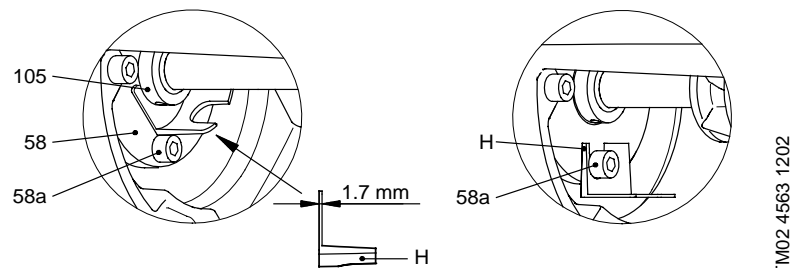

Fig. 1
Gaffel pos. H trækkes fri af akslen, vendes og placeres (opbevares) på skruehovedet pos. 58a, se Fig. 1.
Keep the shaft seal in position on the shaft by inserting the forked distance piece pos. H between the shaft seal pos. 105 and the holder pos. 58, see Fig. 1. **Note:** Store the forked distance piece on the screw pos. 58a.